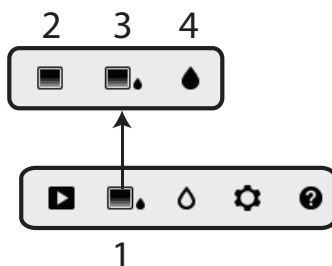

Fig. 5-3 Image mode icons
Press the Select button to access the Main Menu and then select the IMAGE mode icon (1). Refer to Fig. 5-3. Choose Thermal IR Image-only mode (2), Thermal IR image + Moisture reading mode (3), or Moisture-only mode (4).